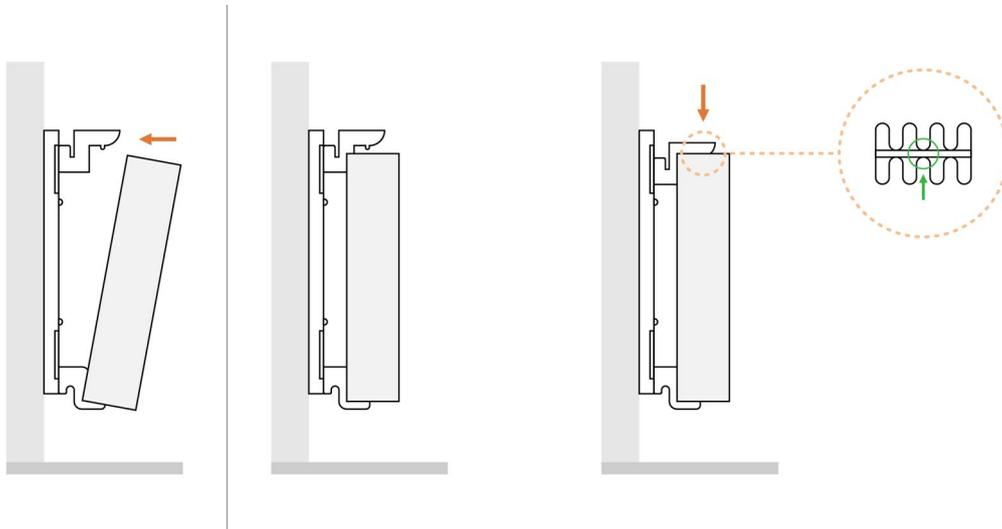

Figure 8 | Pushing radiator up to vertical and securing in place with the top hook
10. Pull up the top hooks as high as they will go in the slots. Slowly push the heater up to vertical. The top hooks should fit over the top of the heater (see **Figure 8**).